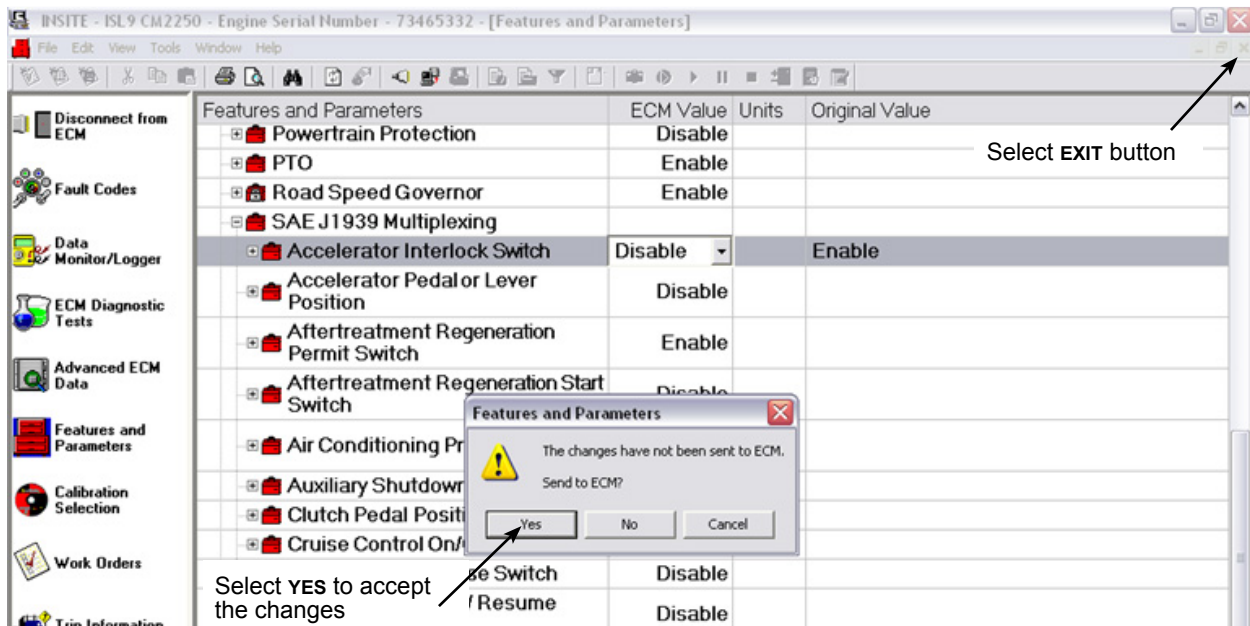

Figure 8 -
- 3.8. Select **EXIT** button in order to save the new parameter in **ECM**. Accept the changes by selecting **YES**. See Figure 8.